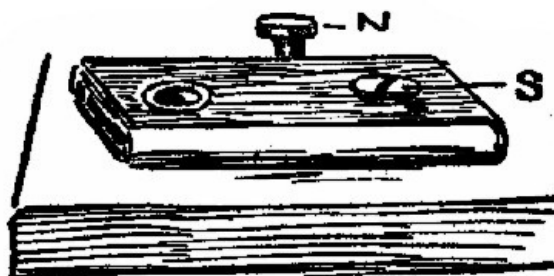

Fig. 53.
**106. Clamp.** Fig. 53. If you have no clamp to hold metal strips while filing them, you can put a screw, *S*, through one hole to hold the strip down fairly tight. Drive a nail, *N*, behind the strip. This will keep it from turning while you file the free end.